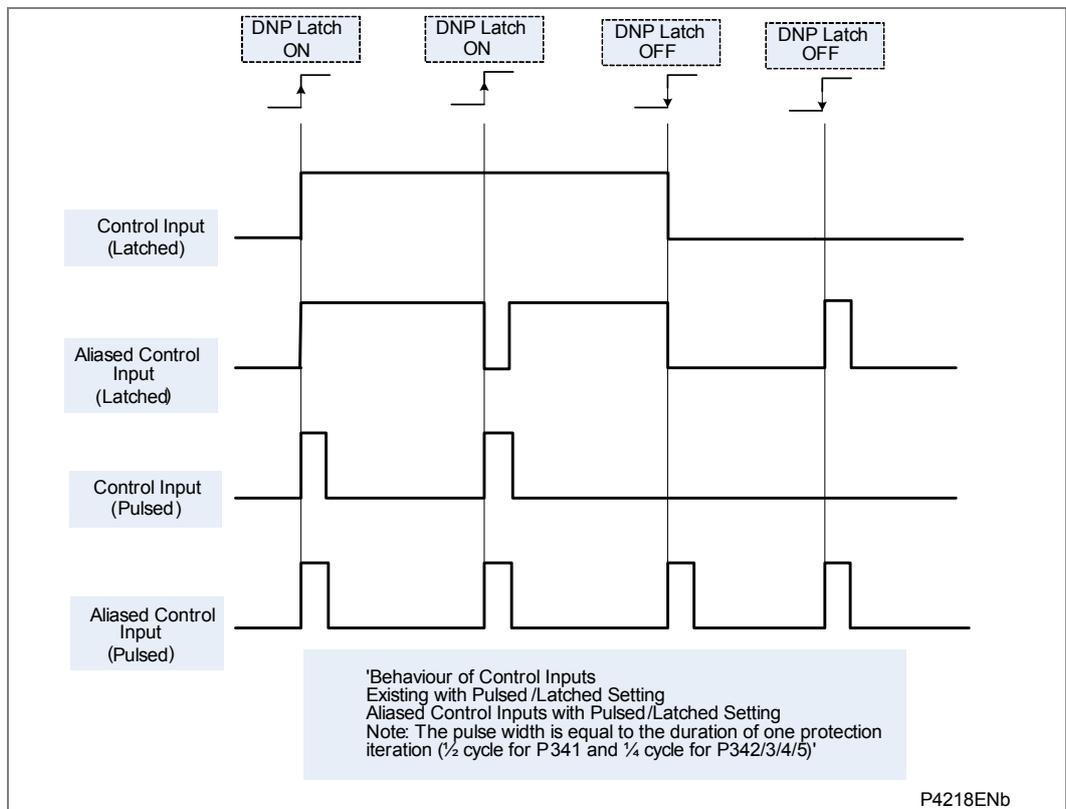

Figure 12 - Behavior of control inputs
- Figure 12 shows the behavior when the Control Input is set to Pulsed or Latched.